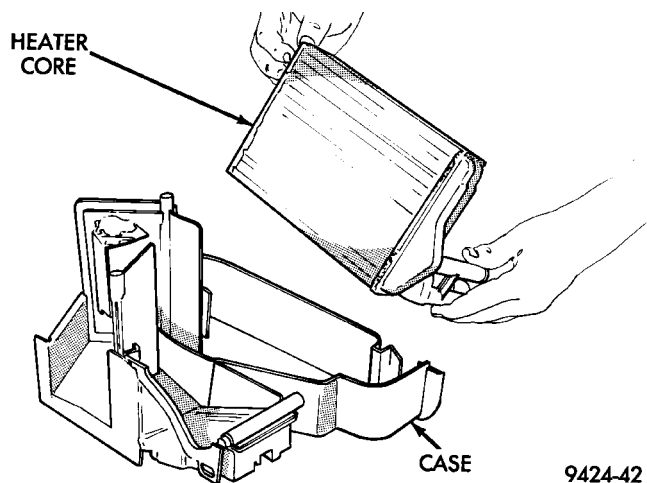

Fig. 49 Heater Core Removal
(5) Lift the heater core out of the case (Fig. 49).